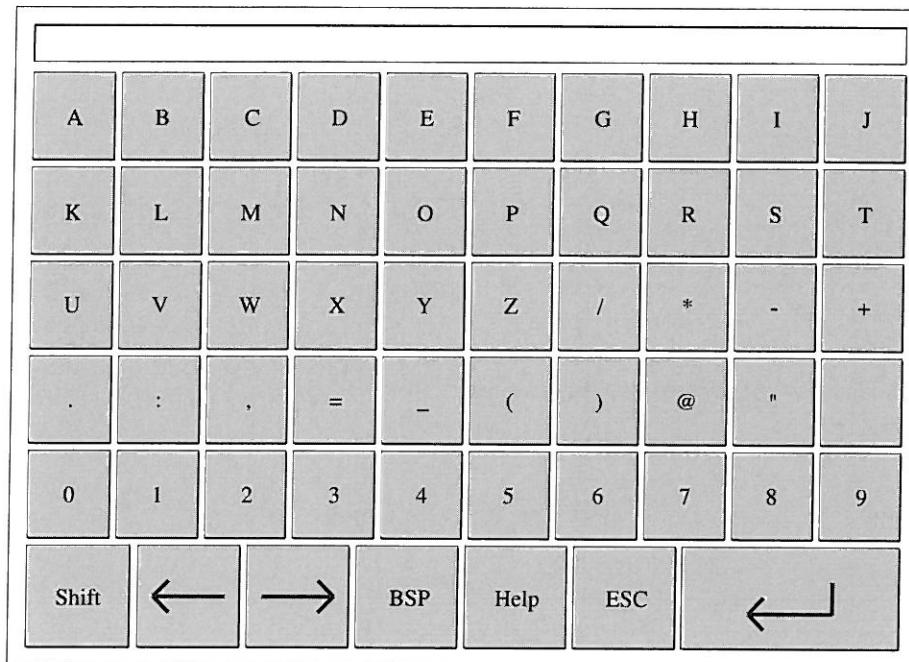

Fig. 5.5 Screen keyboard for alphanumeric values, normal level
Below Fig. 5.5 illustrates an example of a normal screen keyboard to enter alphanumeric values. The HELP key is only displayed when help text has been configured for that particular input field.
- Normal level (Fig. 5.5)